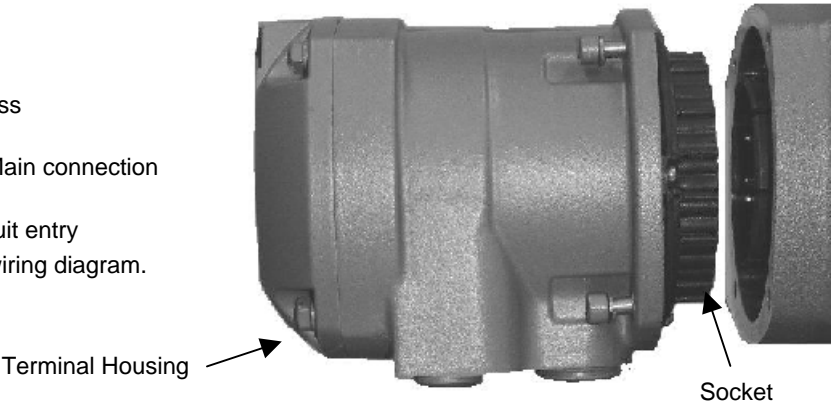

Figure 4-2
- Refer to Figures 4.2 and 4.3